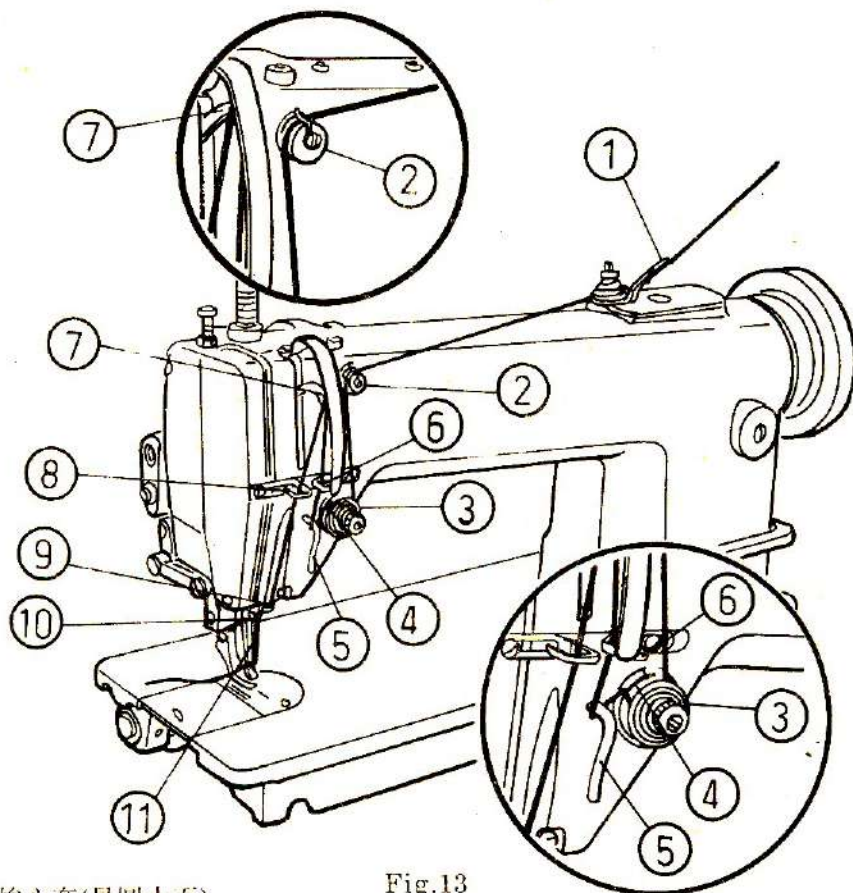

Fig.13
5. To thread the needle and to draw the bobbin thread (fig 13)